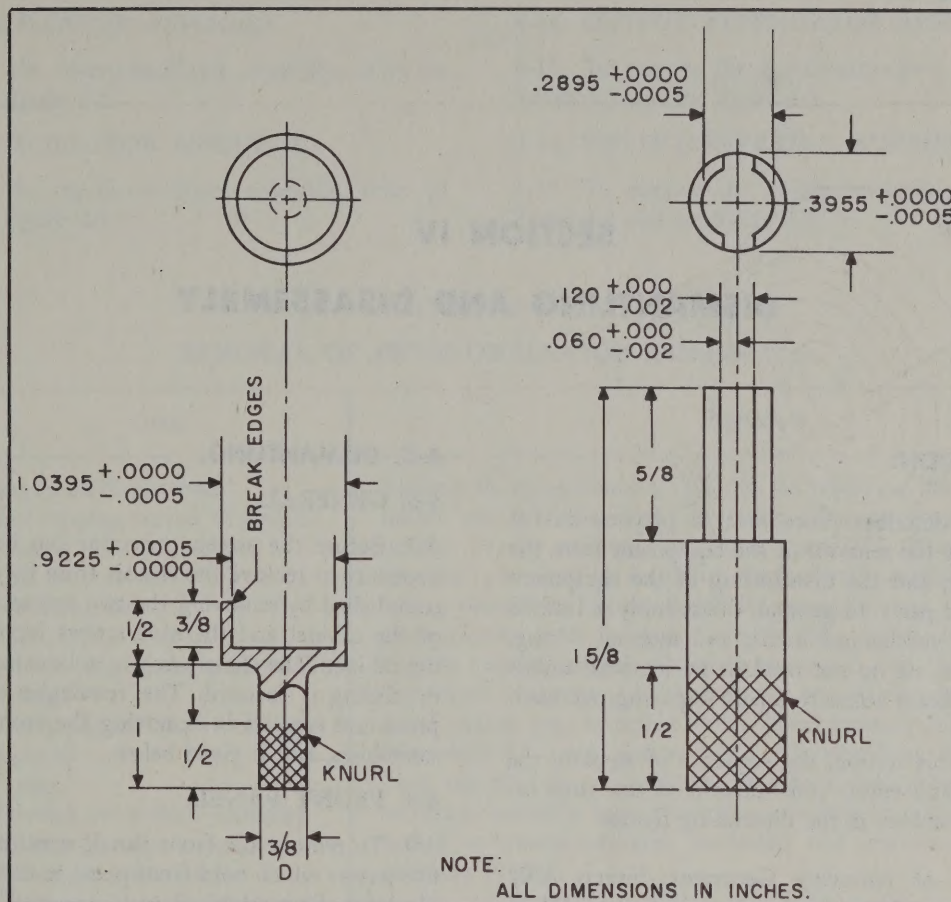
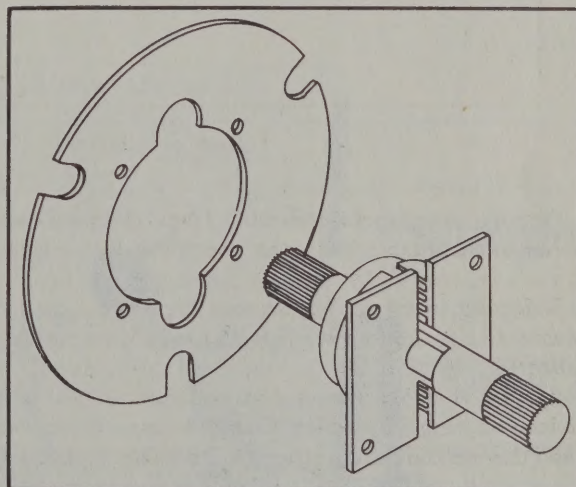

Figure 3-2. Stator Mounting Jig, Constructional Details
Figure 3-3. Method of Using Stator Mounting Jig
e. Using a special stator mounting jig, fabricated locally in accordance with the details given in figure 3-2, assemble the stator plates to the bakelite plate. Figure 3-3 illustrates the use of the special stator mounting jig in aligning the plates of the stator, prior to assembly to the bakelite plate.